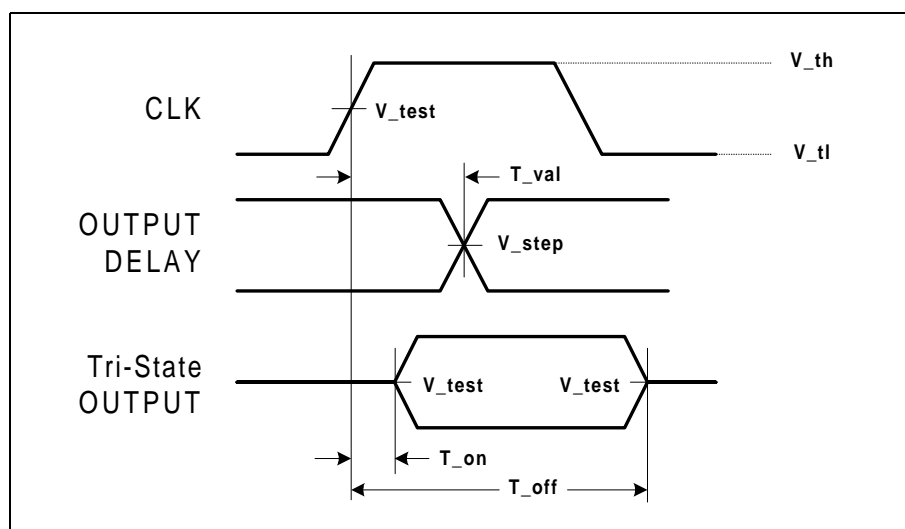
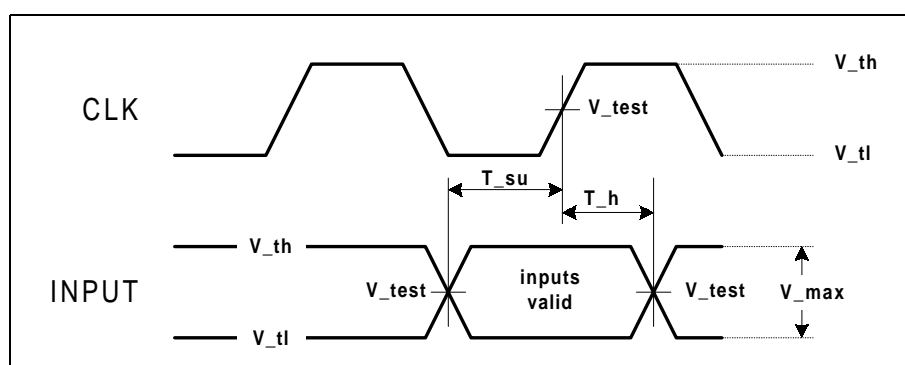

Figure 27. Output Timing Measurement Conditions
Figure 28. Input Timing Measurement Conditions
Figure 27, Figure 28, and Table 23 define the conditions under which timing measurements are done. The component test guarantees that all timings are met with minimum clock slew rate (slowest edge) and voltage swing. The design must guarantee that minimum timings are also met with maximum clock slew rate (fastest edge) and voltage swing. In addition, the design must guarantee proper input operation for input voltage swings and slew rates that exceed the specified test conditions.
- Timing measurement conditions are illustrated in Figure 27.
- Timing measurement conditions are illustrated in Figure 28.